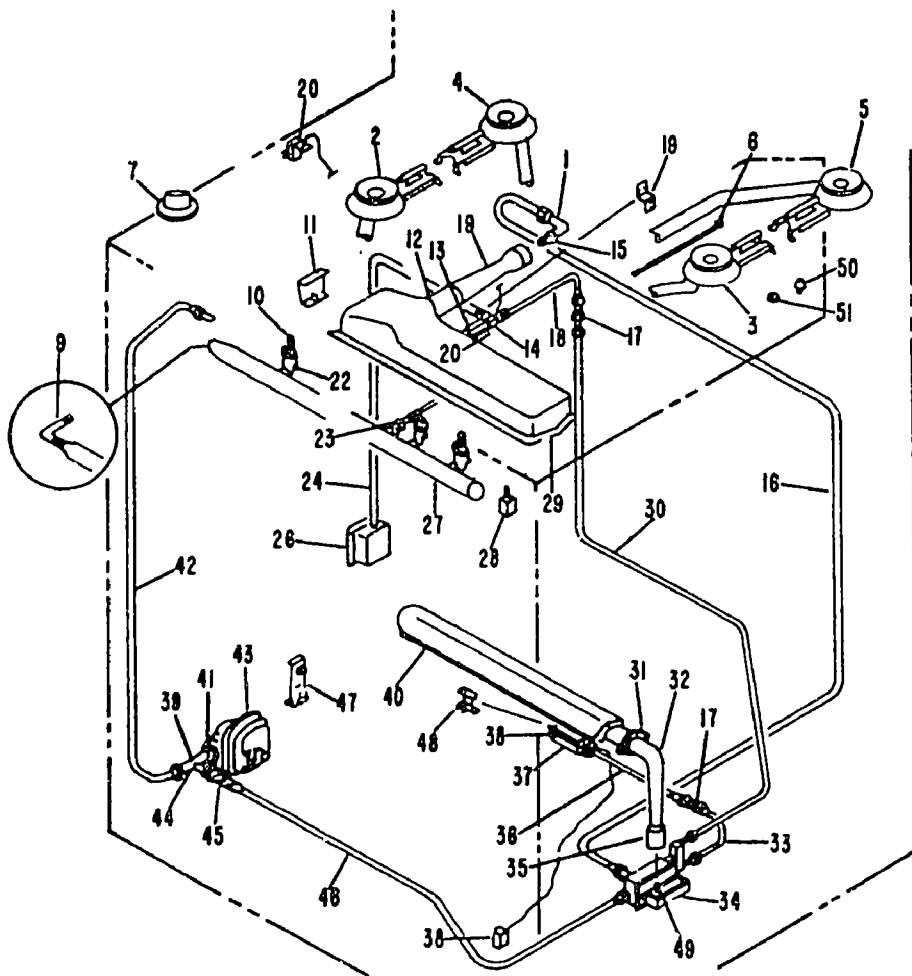

Figure 8
6. Identify by number (Fig. 8) the flame switch oven on a gas range.
7. Identify by number (Fig. 8) the oven burner lower on a gas range.